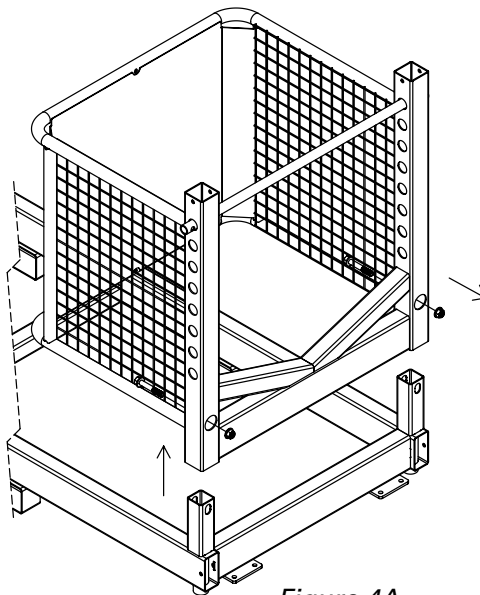

Figure 4A
1. Remove both assembly bolts from the base of one of the extension baskets and lift the extension basket off the base tubing uprights. (See Figure 4A).